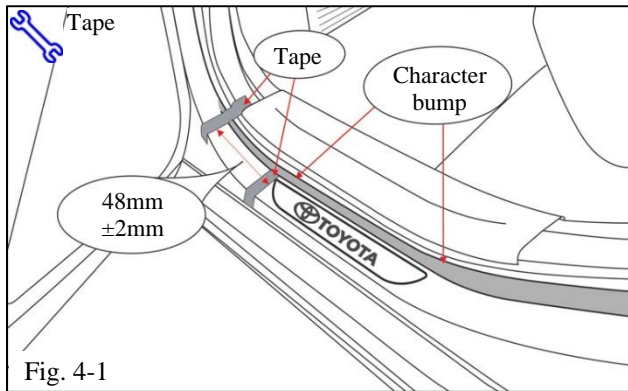

Fig. 4-1
- Place a piece of masking tape flush along the front edge of the driver rear door scuff plate (where it meets the kick panel) across the painted door sill surface to create a measurement reference line (Fig. 4-1).
- Measure 48mm (±2mm) from the back edge of the tape that borders the scuff plate and place the right edge of a second piece of tape across the painted door sill surface (Fig. 4-1).